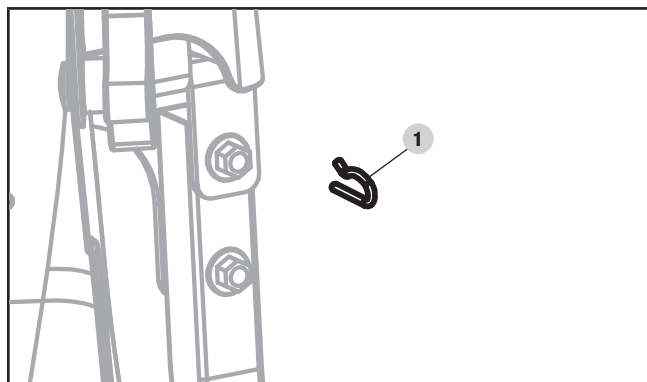

Figure 22B
1. Retirez la goupille R (1) (figure 22B).